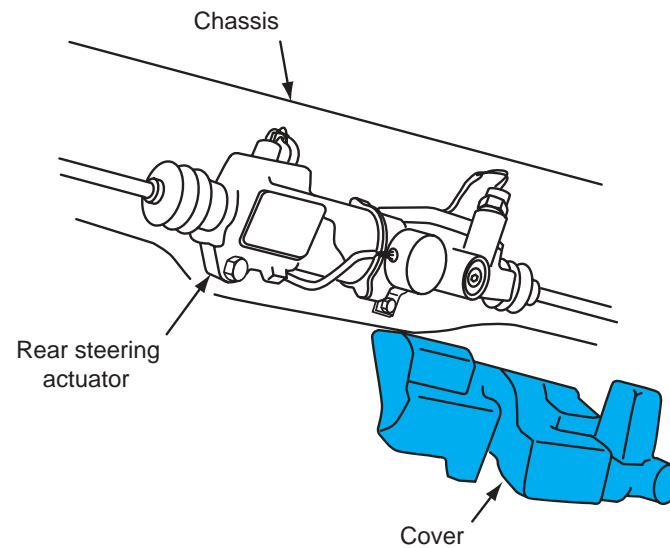

Figure 13-5 Removing the rear steering actuator cover.
6. Remove the rear steering actuator cover (Figure 13-5).